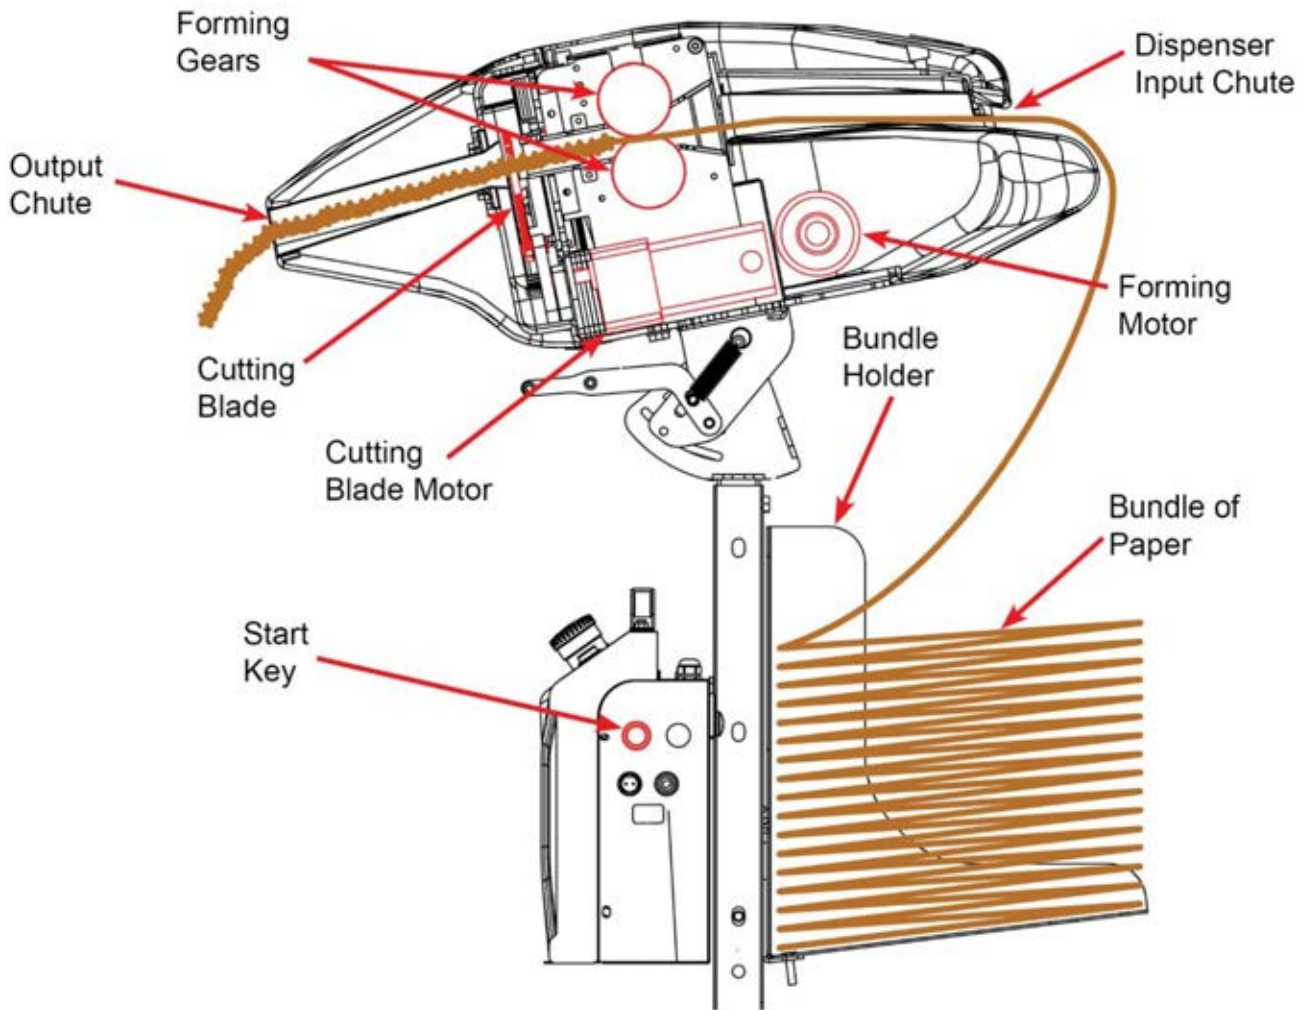

Figure 22 Paper Path
7. Place the **Paper Bundle** in the **Bundle Holder** (refer to Figure 22).
10. Insert the folded arrow of paper sheets into the **Dispenser Input Chute** (refer to Figure 22).
11. Push the folded arrow of paper sheets towards the **Dispenser Feeding Wheels** (refer to Figure 22).
14. Release the **Feed-in Button** on the **Dispenser Control Box** as soon as the string of paper void fill is visible at the **Dispenser Output Chute** (refer to Figure 22).